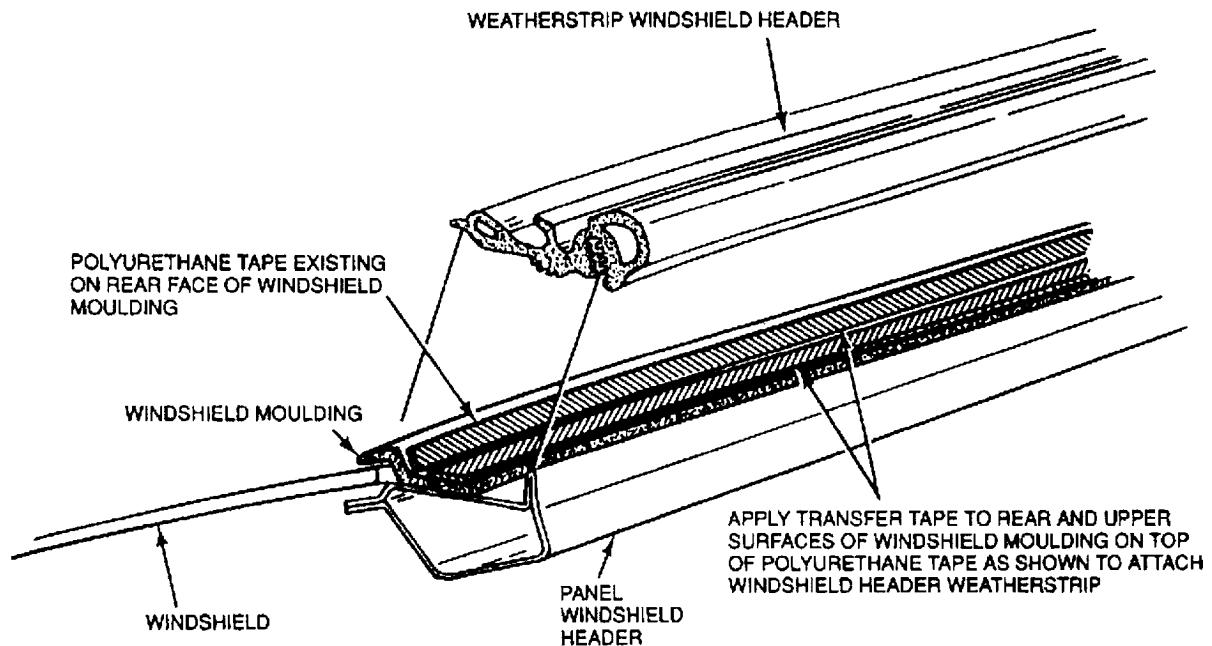

Fig. 1: Windshield Upper Moulding
6. Apply a layer of transfer tape to the polyurethane adhesive tape on the vertical face of the windshield upper moulding. Figure 1.